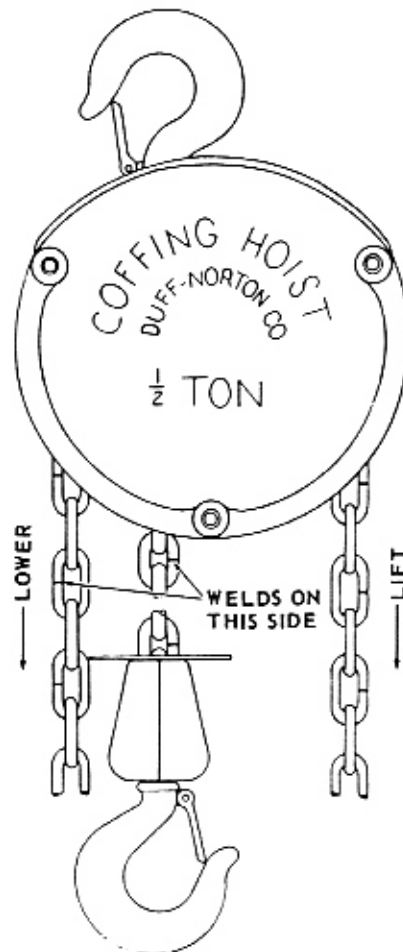

FIGURE 3-1. HAND CHAIN DIRECTION.
tion while facing the hand chain wheel housing. See figure 3-1. Lift the load as follows.
a. If bearings (14 and 41) were removed for inspection, press bearings into housing (39) until outer edges of bearings are flush with housing. Apply a light coat of Cofing No. H-7579 grease, or equivalent, to rollers of bearing (41). Press roll pin (15) into housing if it has been removed.
b. Assemble top hook (40), nut (50) and washer (51) in housing (39). Screw nut on hook until approximately 1/64 inch vertical play (to allow hook to swivel freely) remains. Align pin hole in hook and slot in nut and insert roll pin (49).
c. Place wear strip (38) in housing (39). Apply a light coat of Cofing No. H-7577 grease, or equivalent to balls of sheave bearings (23). Insert load sheave (48) in housing and install sheave bearings. Install retaining ring (24) on load sheave.
d. Install washer (42) on pinion shaft (43) and insert pinion shaft in housing (39). Place gear (47) on load sheave (48) and install retaining ring (46).
e. Attach gear cover (44) to housing (39) with two lock washers (2) and screws (45).
f. Apply Cofing No. H-7502 Loctite, or equivalent, to threads of pawl stud (21) and install lock washer (22) and pawl stud.
g. Attach pawl spring (17) to pawl and place pawl on pawl stud (21). Install retaining ring (18). Place the loose end of reverse ring spring on roll pin (15).
h. Place pin key (16) in hole in pinion shaft (43). Install load flange (13), rear brake disc (12) (asbestos material), brake ratchet, and front brake disc (9) (metal) on pinion shaft.
i. Press roll pin (4) in hand chain wheel (7). Place hand chain (8) on wheel with the weld on up-standing links facing away from wheel. See location of weld in figure 3-1. Install wheel on pinion shaft (43) by turning wheel clockwise until ratcheting occurs. Do not back off. Install thread stop (6) on pinion shaft spline so that the projection of the thread stop is 1/8 inch minimum to 1/4 inch maximum from roll pin. See figure 4-4. Install retainer ring (5).
j. Attach chain wheel cover (3) with three screws (1) and lock washers (2).
k. Invert the hoist on a work table. Drop loose end of the load chain (25) into the side of the load sheave (48) away from dead end screw (36) location. The first link of the chain should be flat in the load sheave pocket with the weld on the next link facing away from the load sheave. See location of weld in